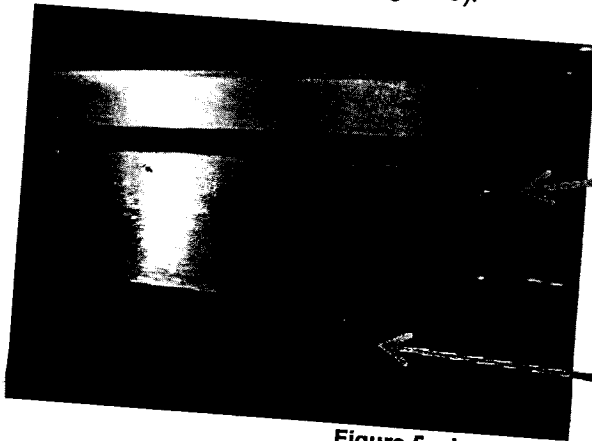

Figure 5 – Installed Bottom Boiler Bracket
Mount the bottom boiler bracket to the boiler using the two (2) removed silver screws and at least two (2) of the included 10-32 stainless steel screws. Two spare screws have been provided. Ensure the boiler bracket clears the existing bottom screw on the boiler cabinet (as shown in Figure 5).